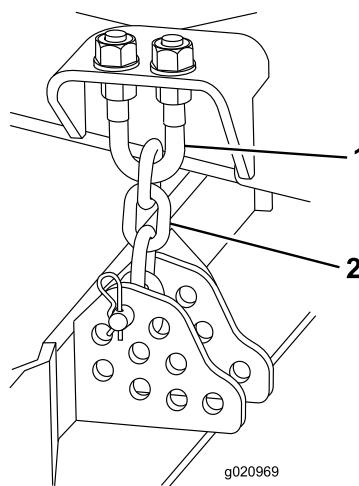

Figure 81
1. Loosen the jam nuts on the top or bottom of the height-of-cut-chain U-bolt (Figure 81).